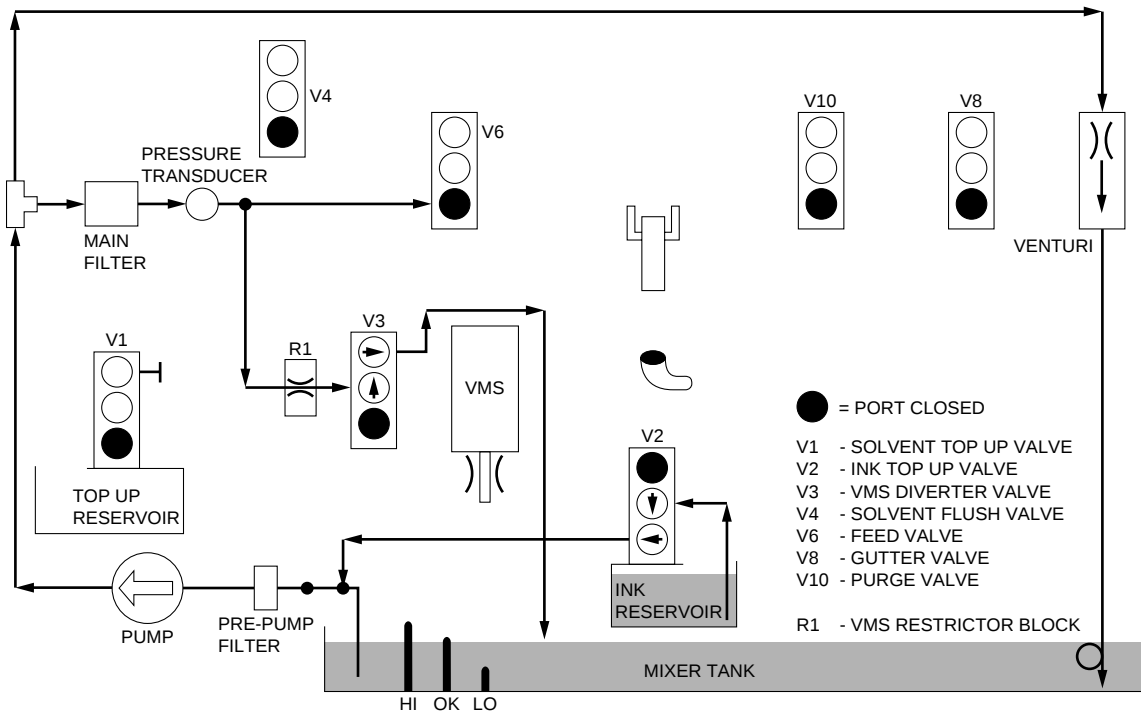

Fig 10.33 Ink addition to mixer tank
- 70** When the level of fluid in the mixer tank falls below the level OK sensor, the ink top up valve V2 is energised. Ink from the reservoir flows round the system into the mixer tank until the level OK sensor is covered. V2 is then de-energised (Fig 10.33).